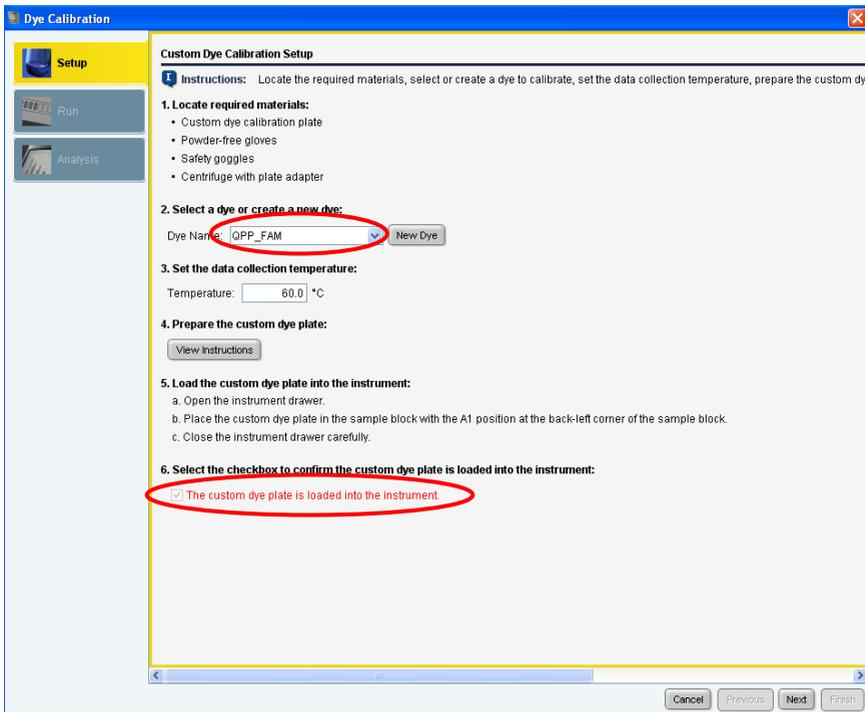

Figure 19. Selecting a dye from the drop down menu in the Custom Dye Calibration Setup.
8. Select **QPP_FAM** in the **Custom Dye Calibration Setup** window. Load the QPP_FAM plate prepared in Procedure A into the instrument. Confirm by checking the box for **The custom dye plate is loaded into the instrument** (Figure 19).